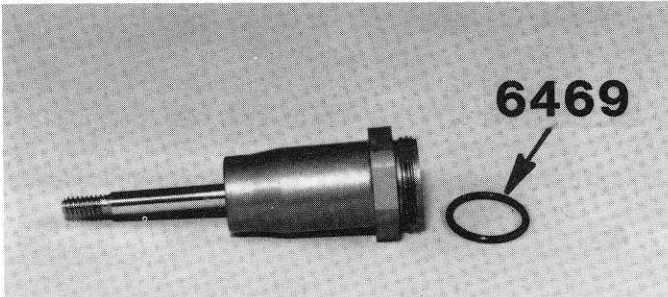

Fig. 117
- Fig. 117** Slip the #6469 black O-ring over the threads and seat it against the pocket at the bottom of the threads.